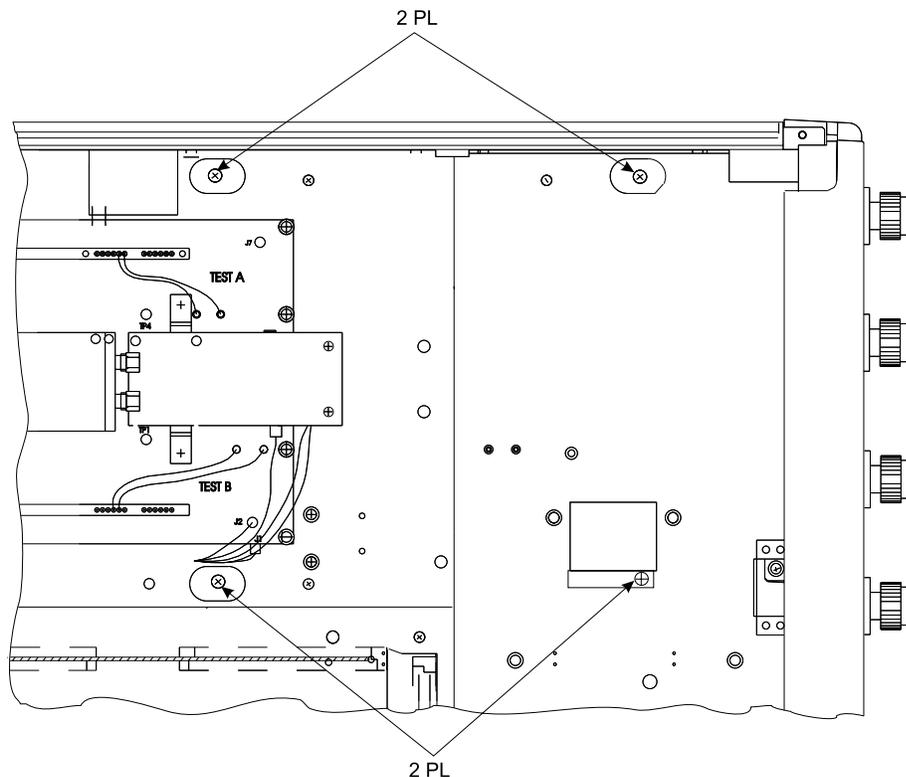

Figure 8-7. Location of Internal VGA Monitor Assembly Mounting Screws
Step 3. Remove the four screws that fasten the monitor assembly to the chassis (see Figure 8-7). Do **not** unfasten the screw with the blue plastic washer under the screw head.